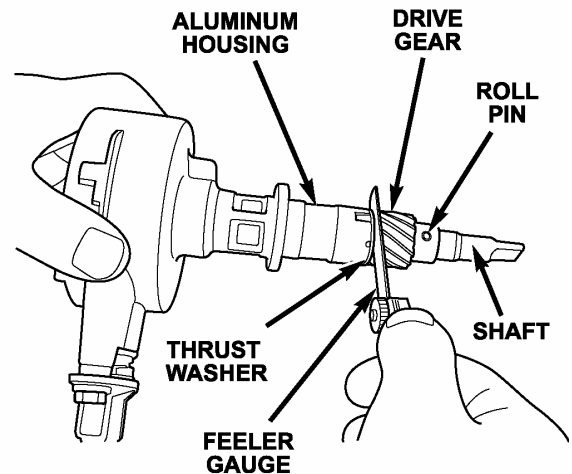

Figure 6
13. Check the clearance between the drive gear and thrust washer using a feeler gauge (Figure 6). The clearance should be between 0.010" to 0.030" (0.25 mm to 0.75 mm).